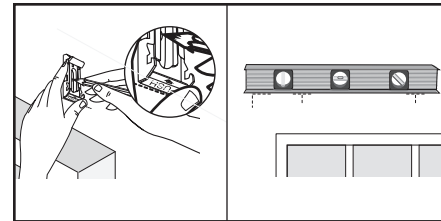

Fig. 9
Align the clip's bottom edge to the line marked in Step 2. Mark (1) pilot hole with pencil. Ensure marks are level before drilling (Fig. 9).